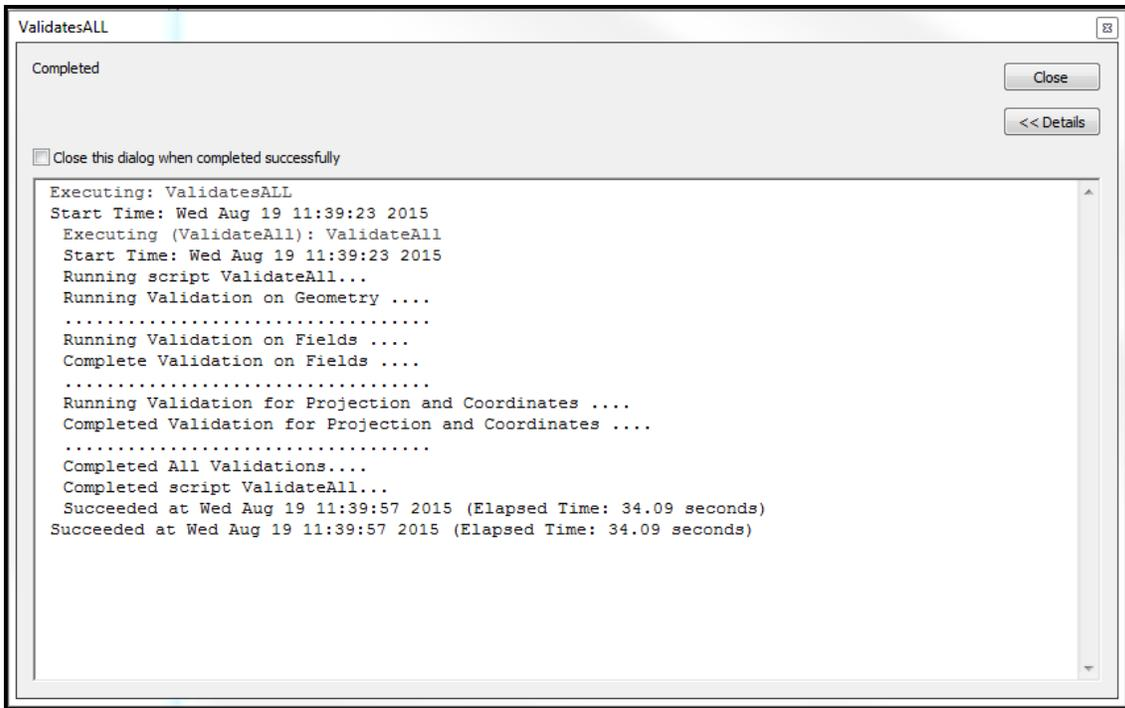

Figure 91: The Validate All Complete Dialog Box
3. When the process is complete, a dialog box indicating the validation process has completed appears, as depicted in Figure 91 below.